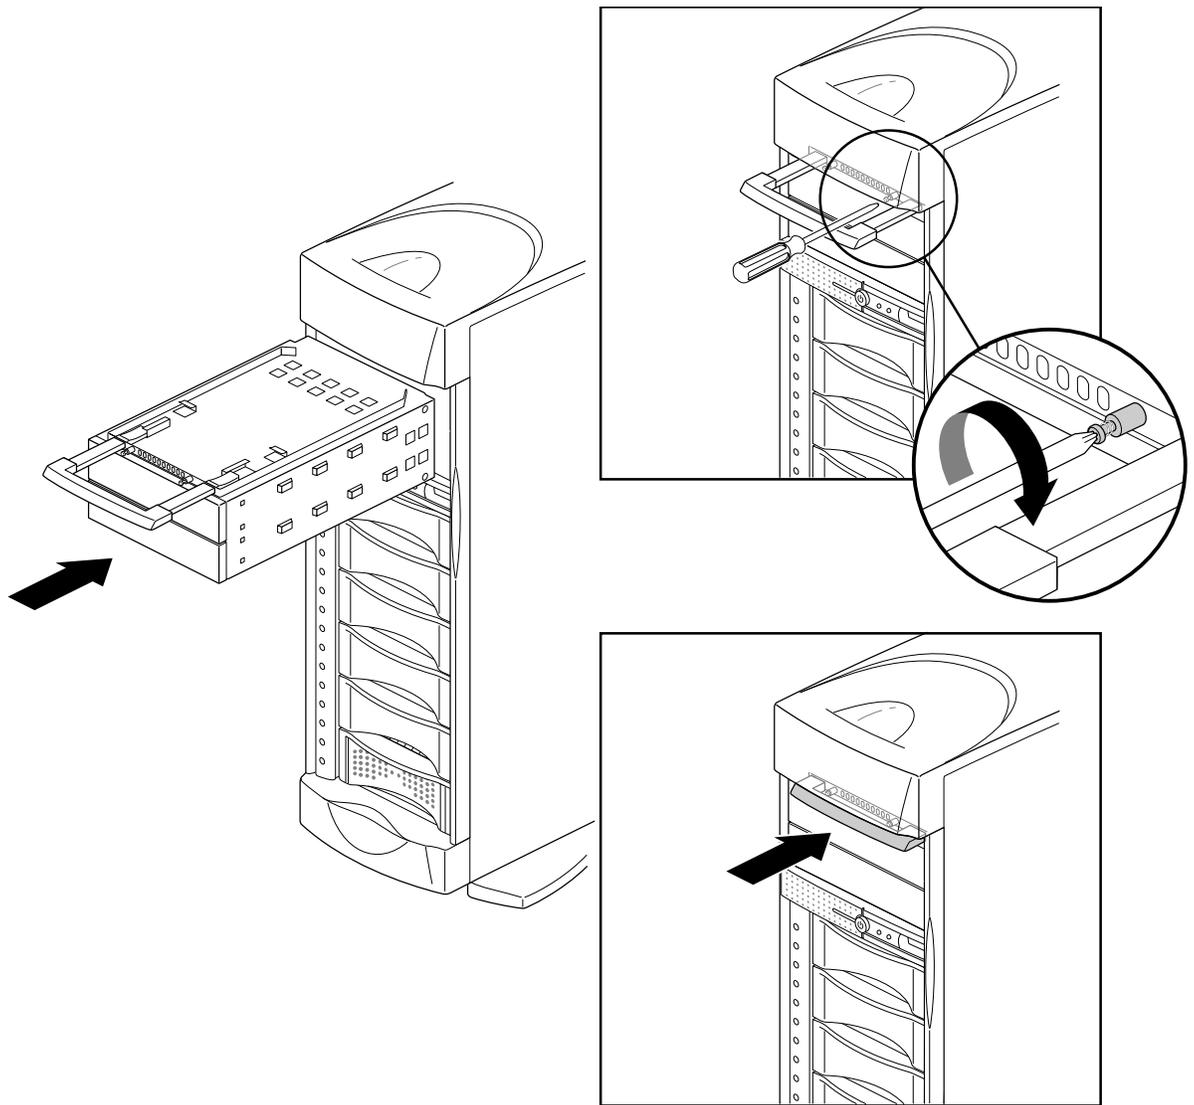

Figure 6-10 Replacing the 5.25-Inch Peripheral Carrier
7. Slide the carrier into the system and secure it with the two captive screws. See Figure 6-10.